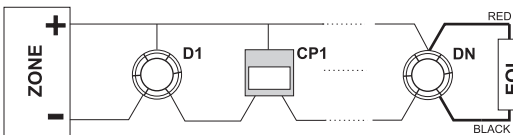

Figure 23. Connecting of detectors (D1÷N) and manual call points (CP1÷N) to the zone circuit.
Up to 32 conventional fire detectors and an unlimited number of manual call points can be connected to each circuit. Figure 23 shows how to connect detectors within a zone.
- One by one remove the EOL-modules from the 4-zone expander connecting clamps and fit them to the last detector of each of the circuits as observe the polarity - Figure 23.